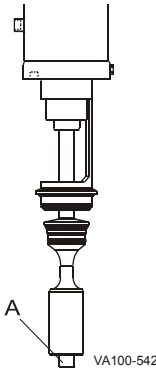

Figure 19 - Valve Stem Removal
1. Lower stem removal: Using an open end wrench, remove the lower stem (Figure 19, item A) from the actuator by turning it counter-clockwise.